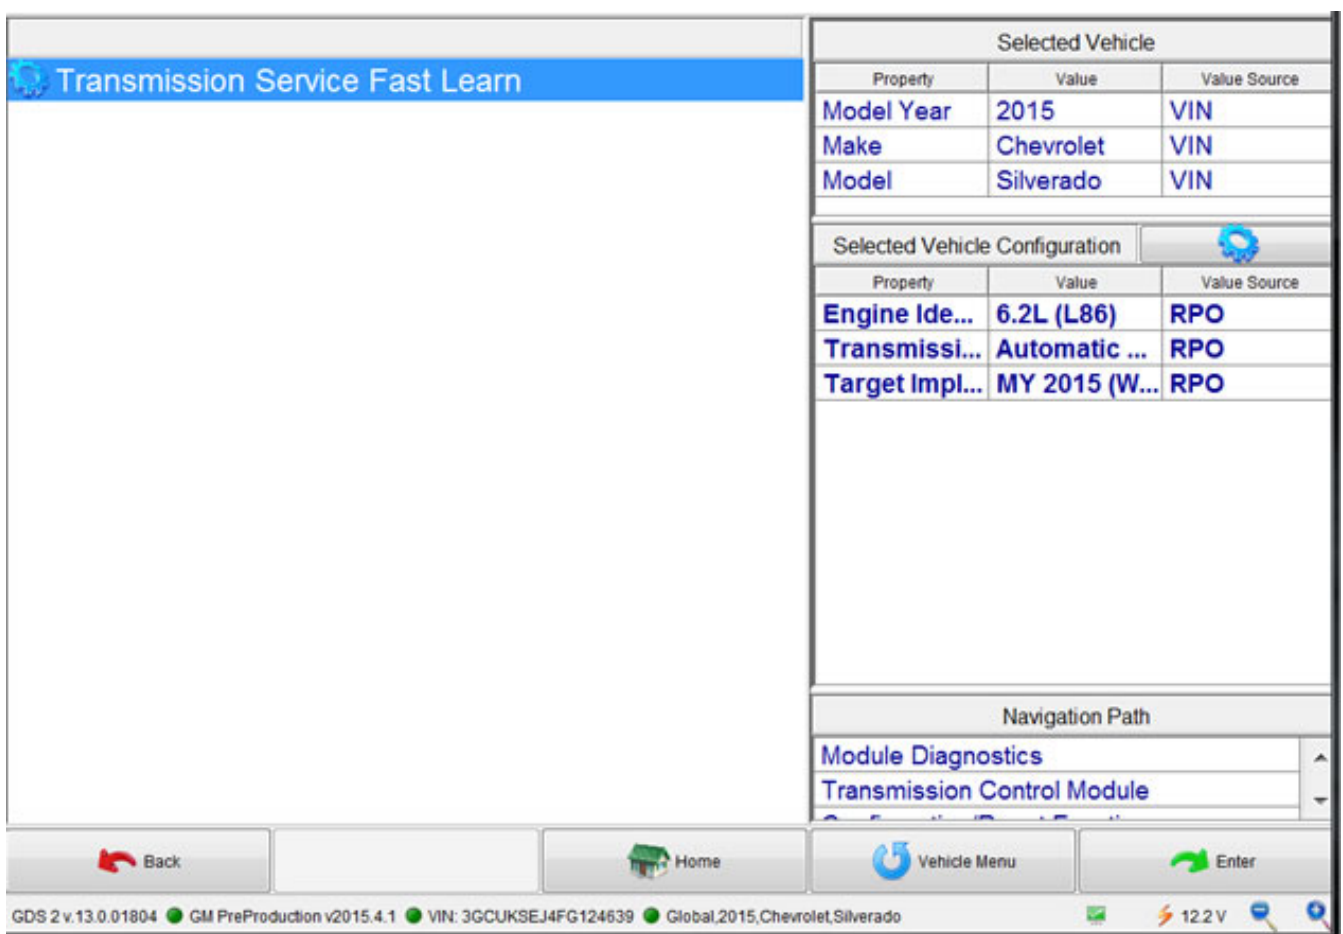

Fig 8
4. With the engine running, shift the transmission to the Drive position with the brake applied. Perform the Service Fast Learn procedure with a scan tool. In GDS 2, go to Module Diagnostics > Transmission Control Module > Configuration/Reset Functions > 5. Transmission Service Fast Learn. (Fig. 8) Follow the instructions on the scan tool.